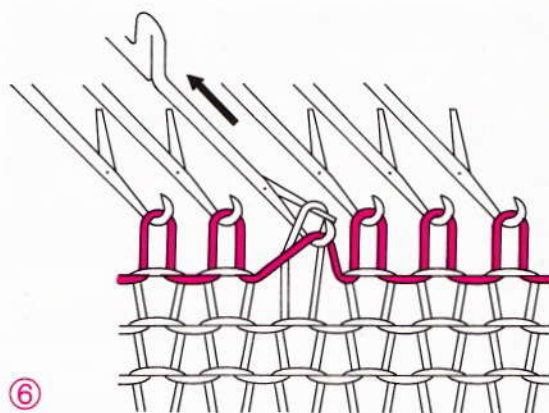

Fig. 217
- Push needle to B position to form a stitch (fig. 217). Pull the knitting slightly downwards so that the picked up stitch is the same size as the others.